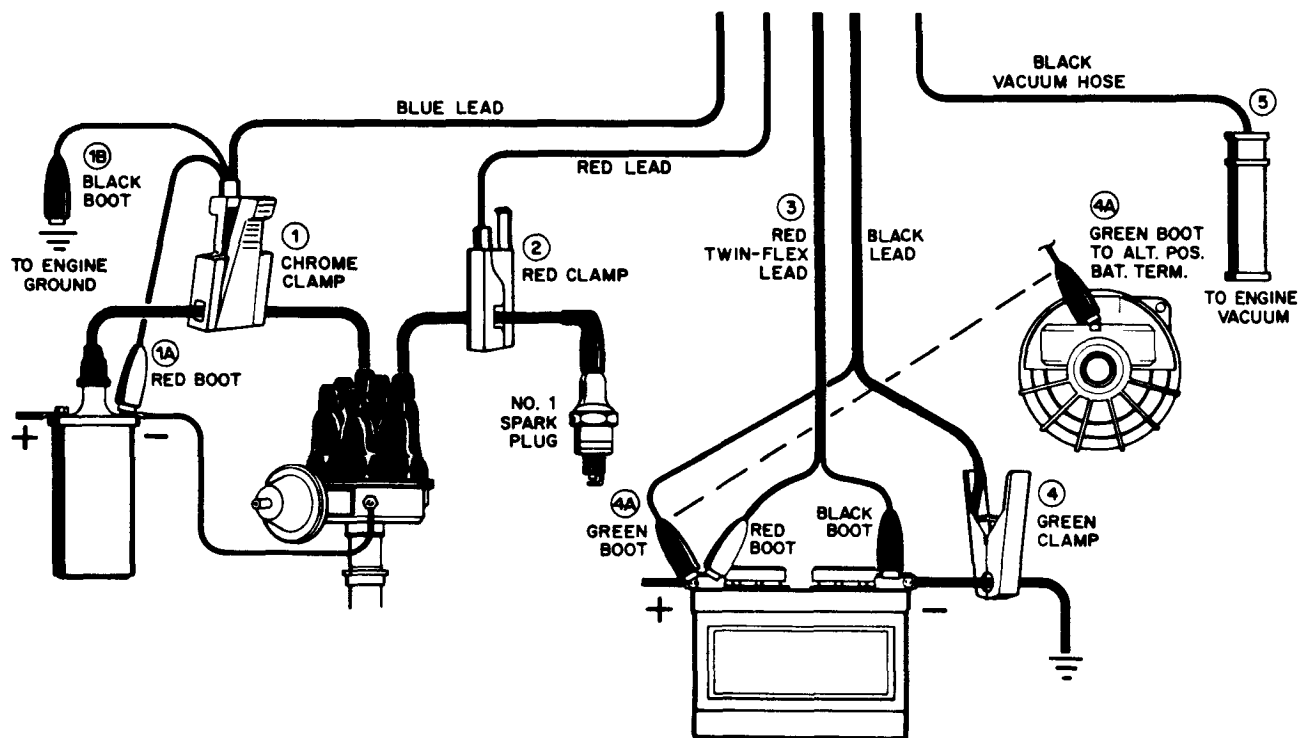

FIGURE 7—Test lead connections to engine.
1. Clamp Chrome PATTERN PICKUP around the secondary coil wire. (On G.M. V-8 and V-6 HEI Systems, use Adapter #1747-102.) See Figure 7.